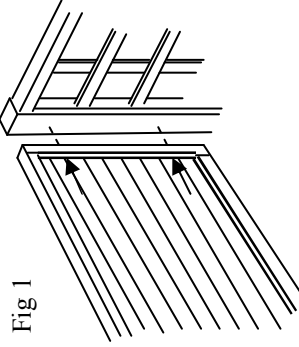

Fig 1
1. Take one of the side sections **A** and one of the back sections **B**. Fix the back panel to the side section using two screws **V**. Make sure the top of the panel is level with the top of the post of the side section as Fig 1..